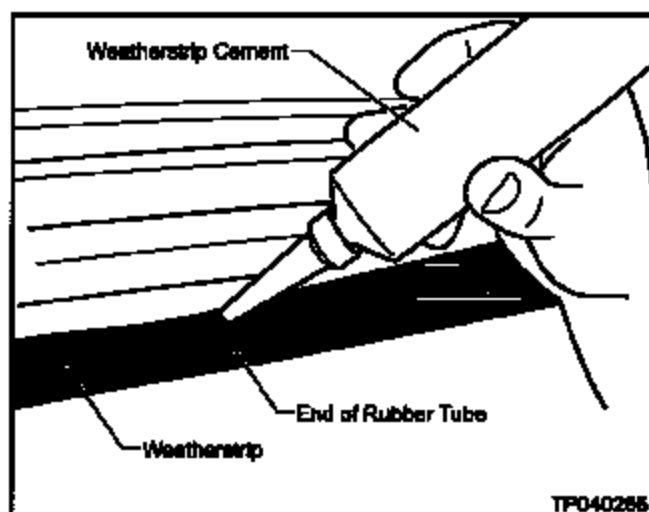

Figure J10
13. Apply Weather-strip Cement to the end of the Rubber Tube/cut hole (see Figure J10).